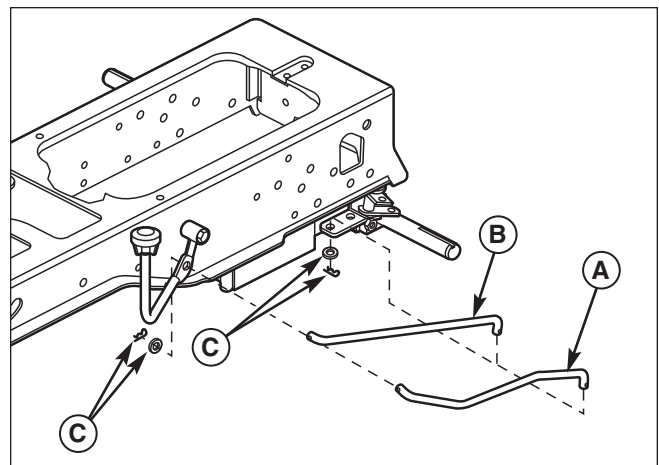

Figure 1. Replace Differential Lock Rod
1. Locate the differential lock rod (A, B, Figure 1). If the rod has no bends in it (B), replace it with the rod included. If the rod has two bends (A) it does not need to be replaced.